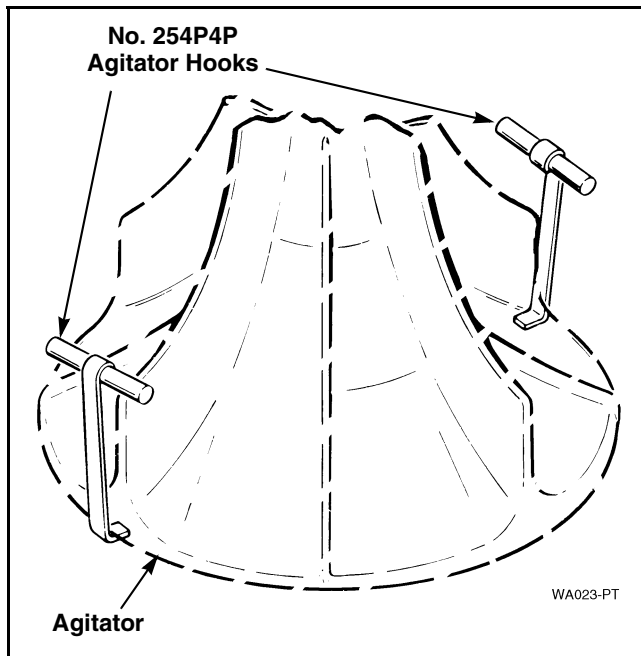

Figure 12
- To remove agitator by hand, place two agitator hooks, No. 254P4P, under bottom edge of agitator. Refer to *Figure 12*.